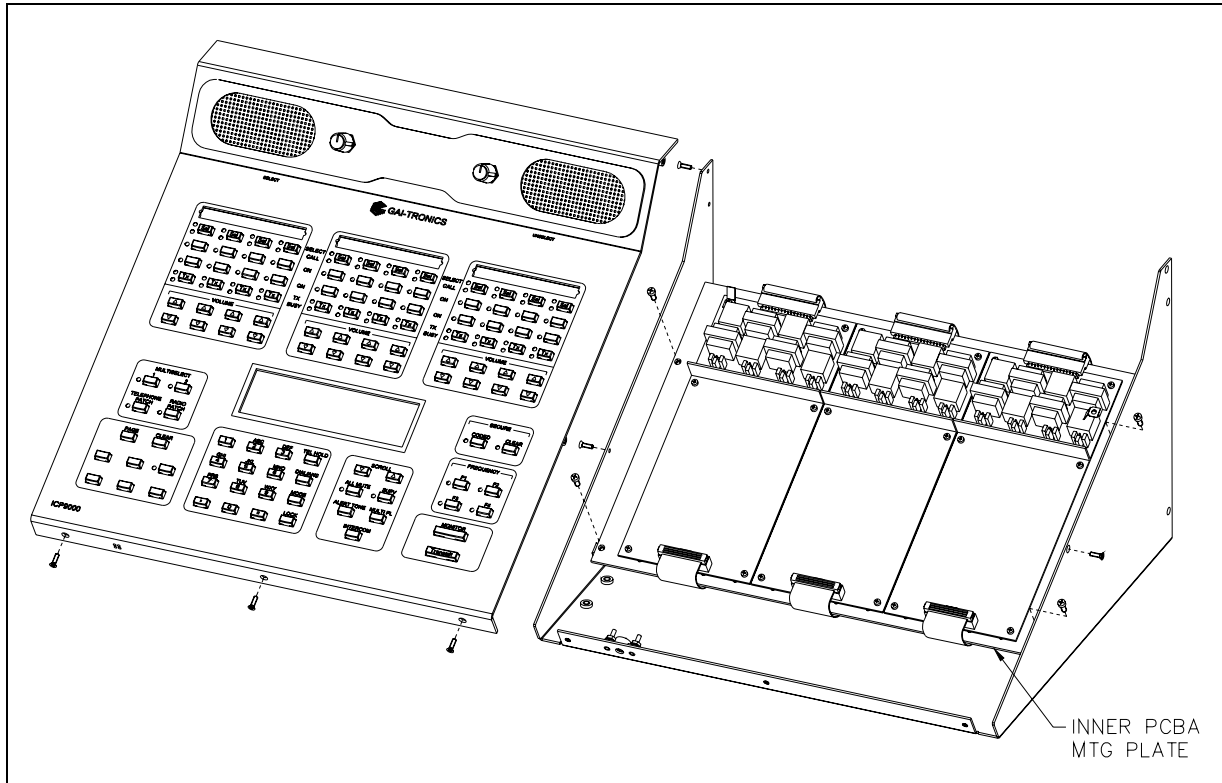

Figure 2.
3. Remove the seven screws securing the top panel and gently lift the cover exposing the attached speaker cable and master display cable. See Figure 2.
5. Remove the four screws attaching the mounting plate to the base. This allows you to remove the mounting plate giving access to the main control PCBA. See Figure 2.